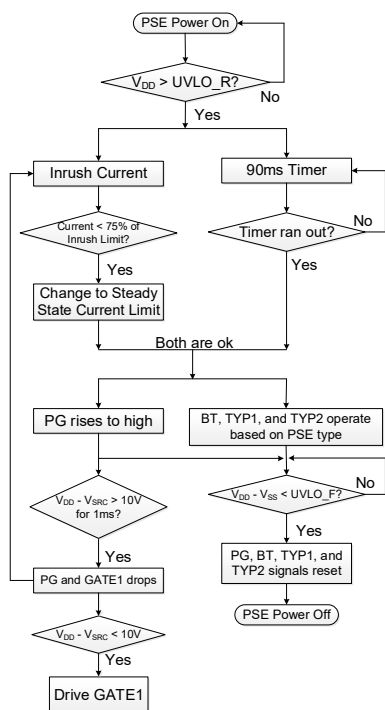

Figure 3: PG Logic
- A wall power adapter is detected on AUX, and  $V_{ADP}$  exceeds the UVLO threshold (see Figure 3).